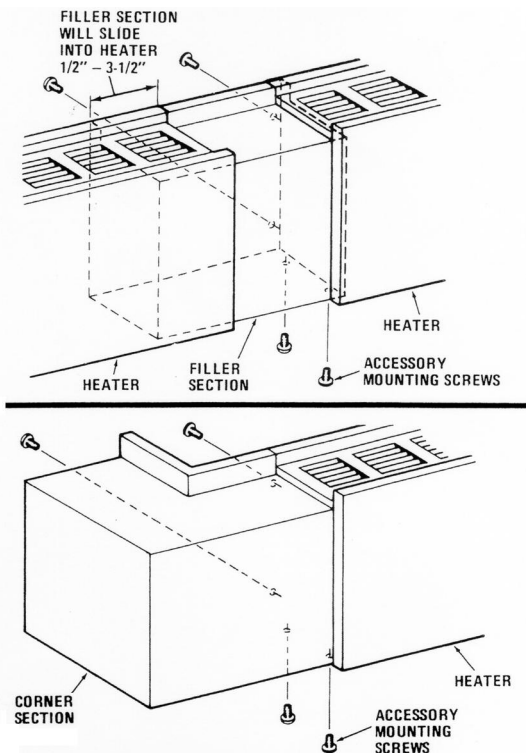

Figure 6
4. If required by plan, install filler section (1), (Figure 1) to either heater (2) or (3) by means of four #6 screws supplied with filler section. (Refer to Figure 6.) Discard filler section end cap in this application.
5. If the wall run has inside or outside corners, install corner (4 and 5) to the heater (2 and 9) by means of four #6 screws supplied with corner section. (Refer to Figure 6).